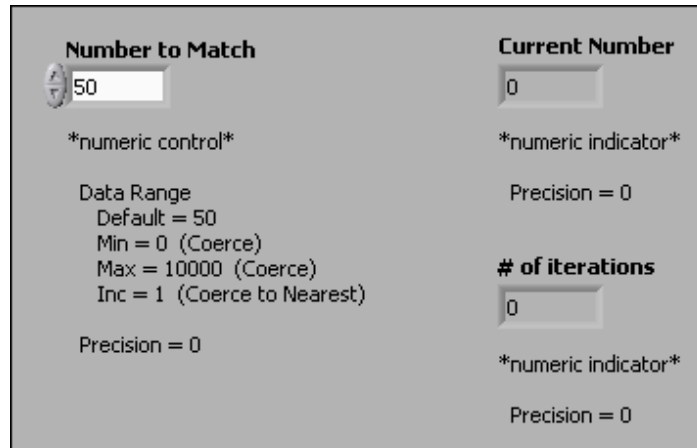

Figure 1
1. Open a blank VI and build the front panel shown in Figure 1. Modify the controls and indicators as shown in the front panel and as described in the following steps.